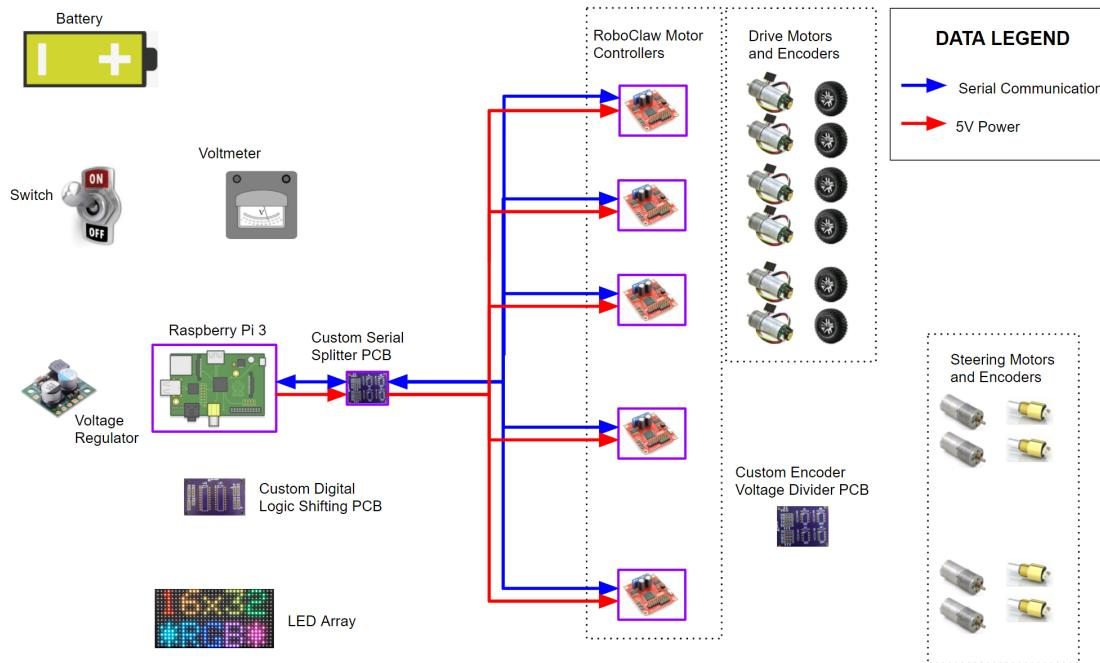

Figure 20: Serial Splitter Overview
1. The board will come unpopulated and will look like the Figure 20. First take and solder the 4.7K resistor and all of the header pins into the board.
Next we need to bring power to the Raspberry Pi. It requires a regulated 5V DC power source, so it will be powered from the 5V regulator. Figure 20 shows the section of the power diagram we'll be working on, with the power connections shown in **RED**.
Connecting the Raspberry Pi to Serial Splitter Board: In order for the Raspberry Pi to talk to the motor controllers we will be using Serial communication. Figure 20 shows the section of the power diagram we'll be working on, with the power connections shown in **RED**, and data lines in **BLUE**.